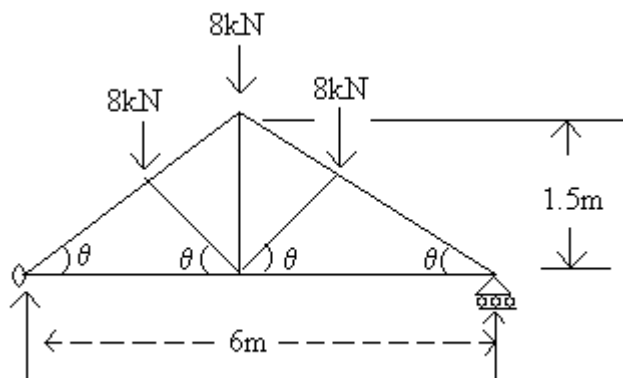

Figure 1
2. Design the member carrying the max. tensile load for the roof-truss loaded as shown in figure 1. First find the forces in all the members.